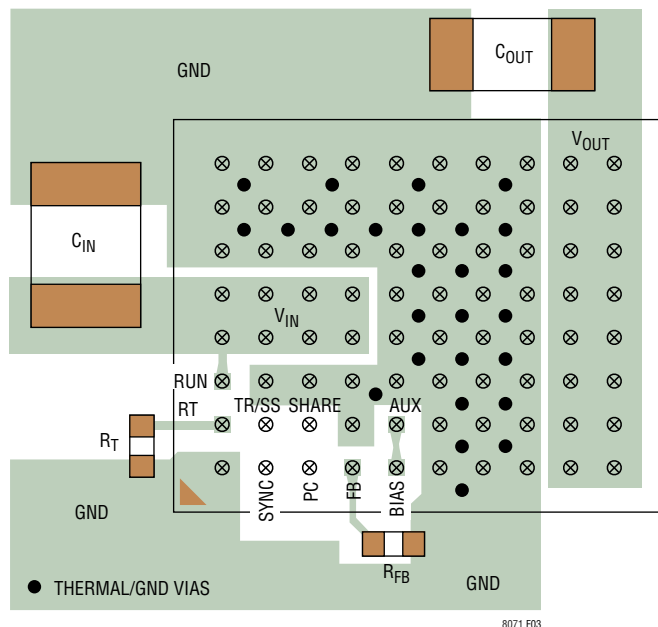

Figure 3. Layout Showing Suggested External Components, GND Plane and Thermal Vias
minimize EMI and ensure proper operation. Even with the high level of integration, you may fail to achieve specified operation with a haphazard or poor layout. See Figure 3 for a suggested layout. Ensure that the grounding and heat sinking are acceptable.
6. Use vias to connect the GND copper area to the board's internal ground planes. Liberally distribute these GND vias to provide both a good ground connection and thermal path to the internal planes of the printed circuit board. Pay attention to the location and density of the thermal vias in Figure 3. The LTM8071 can benefit from the heat-sinking afforded by vias that connect to internal GND planes at these locations, due to their proximity to internal power handling components. The optimum number of thermal vias depends upon the printed circuit board design. For example, a board might use very small via holes. It should employ more thermal vias than a board that uses larger holes.